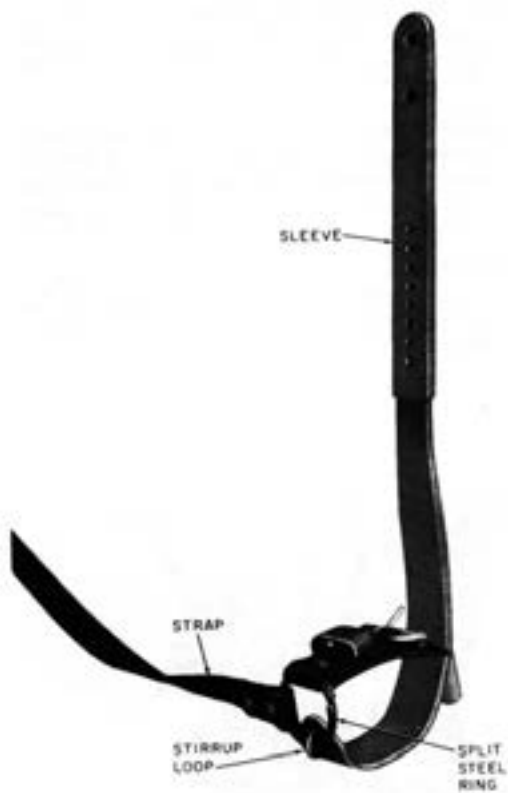

Fig. 6—Foot Straps Attached to Climbers
3.11 The E climber foot straps are attached to the climber so the buckle assembly will be across the foot instep when fastened. Figure 6 shows the foot strap on the climber.